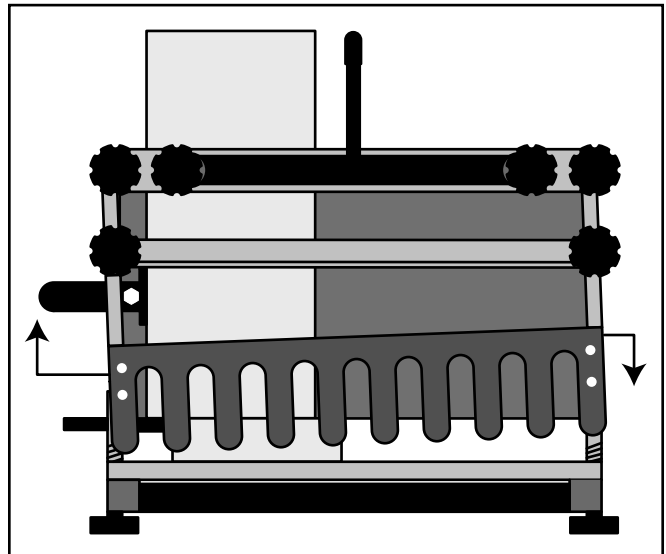

Figure 32. Adjust the template so that it is parallel to the front edge of the drawer pieces.
3. The template is not parallel to the drawer edges. See **Figure 32**.